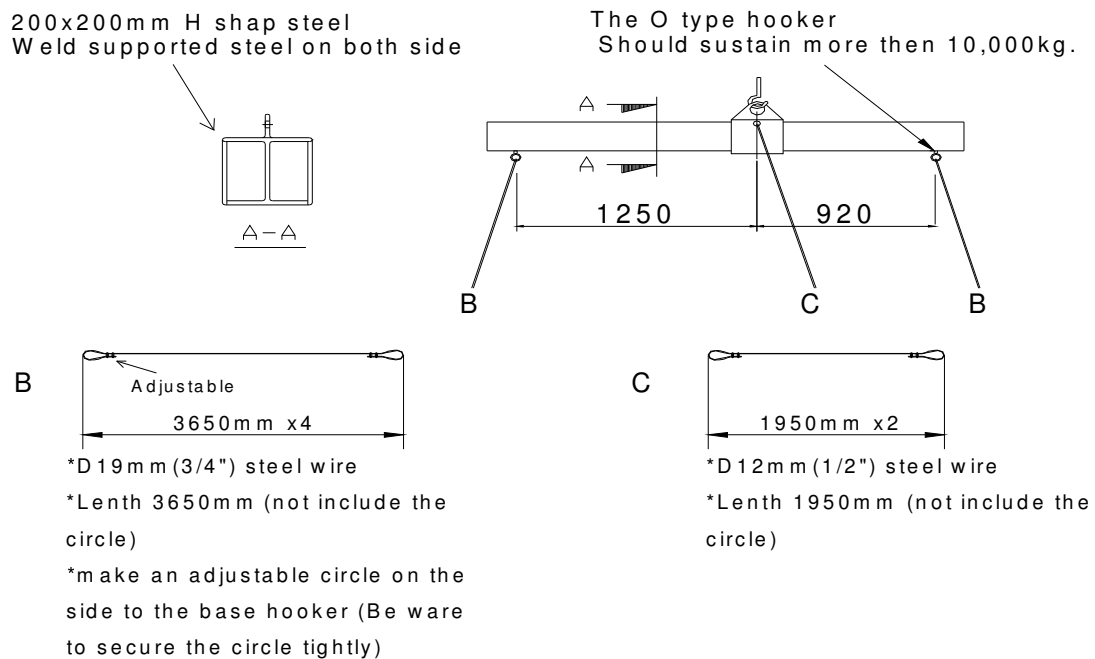

FIG 3.2.1 HANGING DIMENSIONS AND POSITION
- E. THE MACHINE HAS HOOKS. TO HANG THE MACHINE, APPLY TWO WIRE ROPE, OR SLING, TO THE HOOKS AS SHOWN IN FIG. 3.2.1.